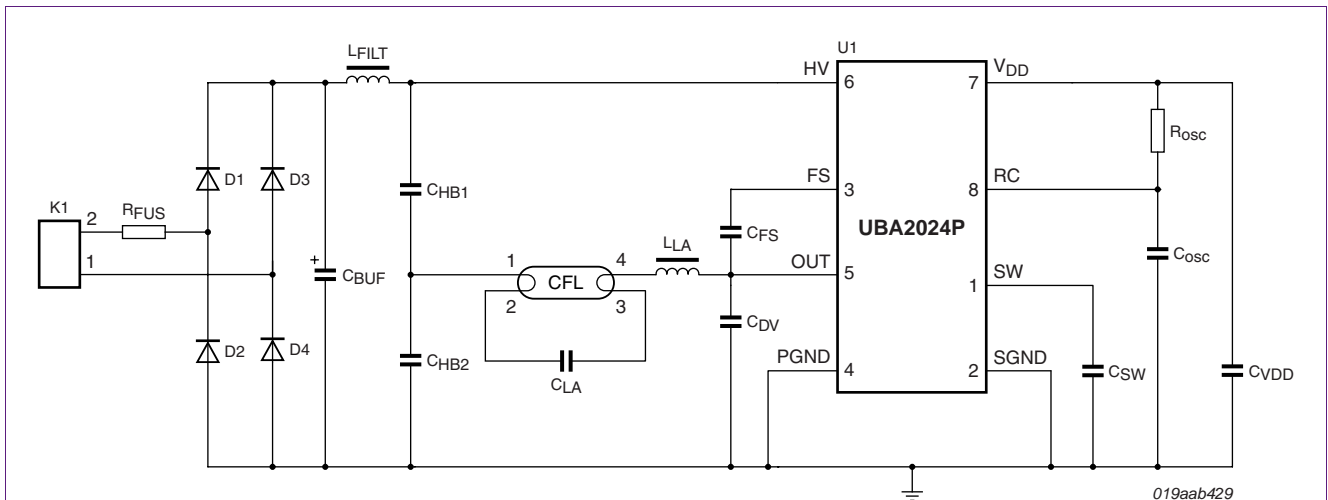
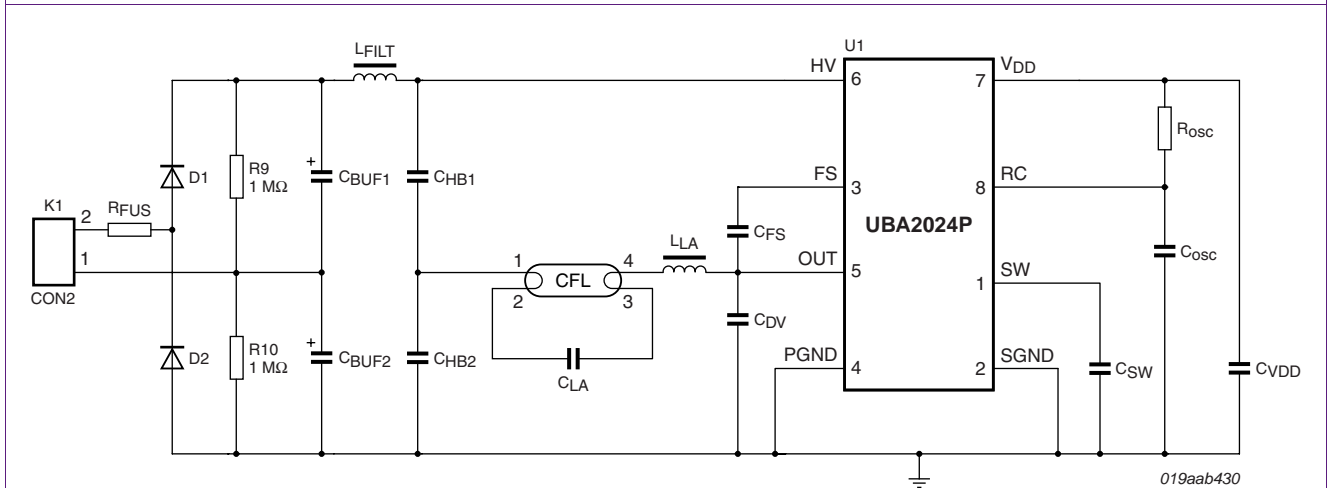

Fig 1. Typical application diagram
Fig 2. Typical application diagram with voltage doubler
Figure 1 shows the typical circuit diagram of the UBA2024. Figure 2 shows a version with a voltage doubler for use in 120 V (AC) applications. The voltage doubler is needed for medium and high powers in regions that have lower mains voltages.